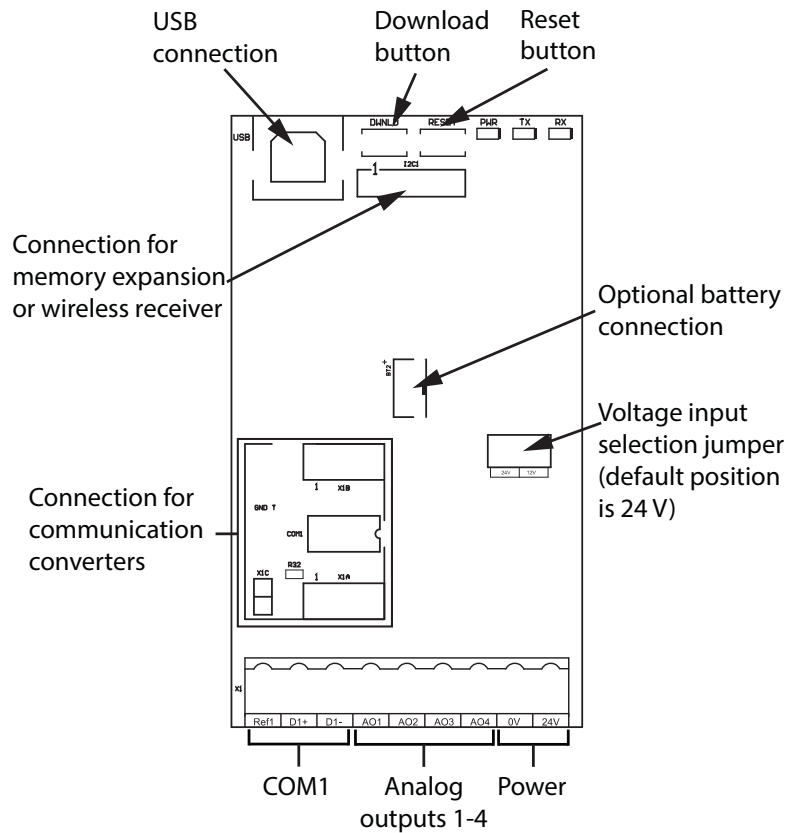

Figure 4 Board connections
Connect the memory expansion cards to the I2C connector shown in Figure 4.
The voltage input selection jumper (shown in Figure 4) determines whether the OpenBAS-HV-NX4AO accepts 24 V or 12 V. By default the jumper is set to 24V.
The full speed USB 2.0 connection is shown in Figure 4. Connect a computer to this port in order to configure the controller.
The OpenBAS-HV-NX4AO has connections for an optional battery, shown in Figure 4. Since the OpenBAS-HV-NX4AO is normally configured as a slave, it receives the time from the master, so it does not require a battery. Connect a battery if the controller is configured as a master or is used as a standalone controller. The Mircom part number for the battery is BT-025.
6. Connect the new battery to the connection shown in Figure 4. The battery wire can be connected only one way.
Figure 4 on page 11 shows the location of the terminals. The terminals are depluggable for ease of wiring.